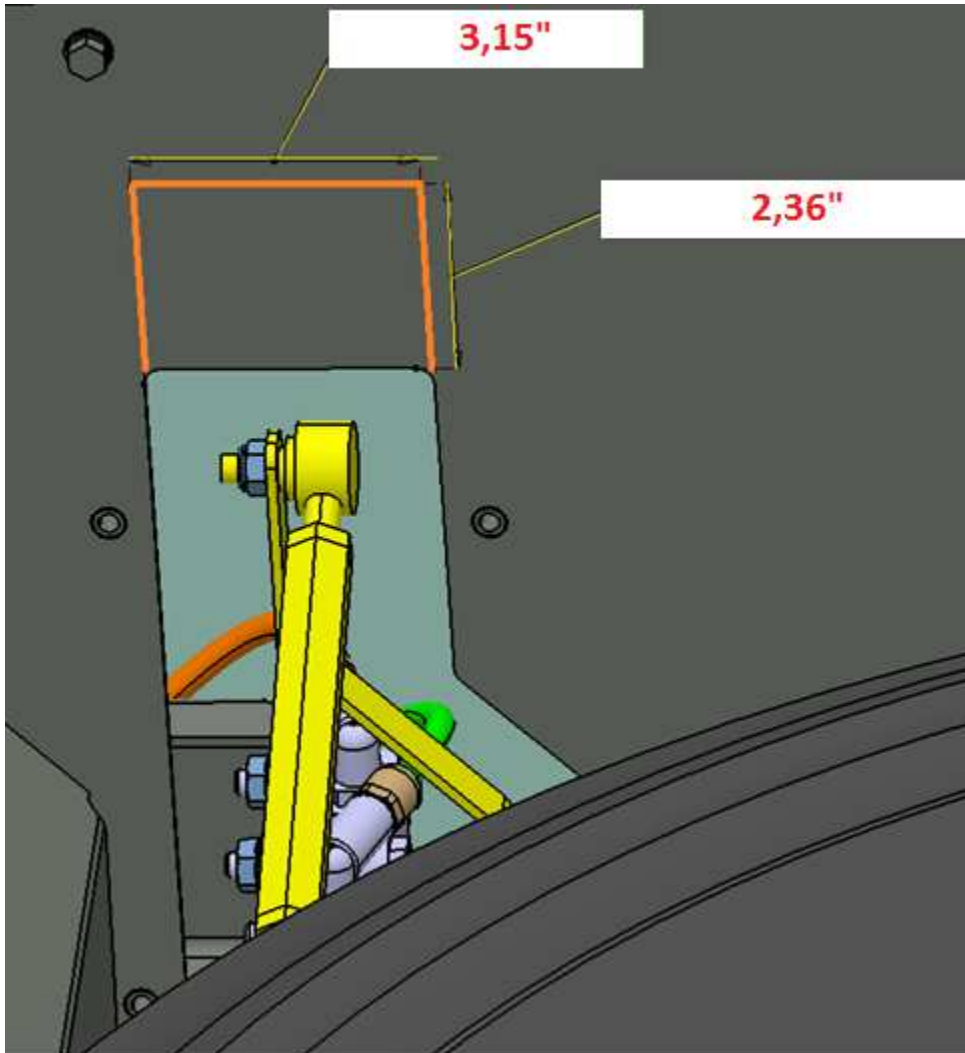

Figure-4
Step 4: Resize the slot on panel shown in Figure-4